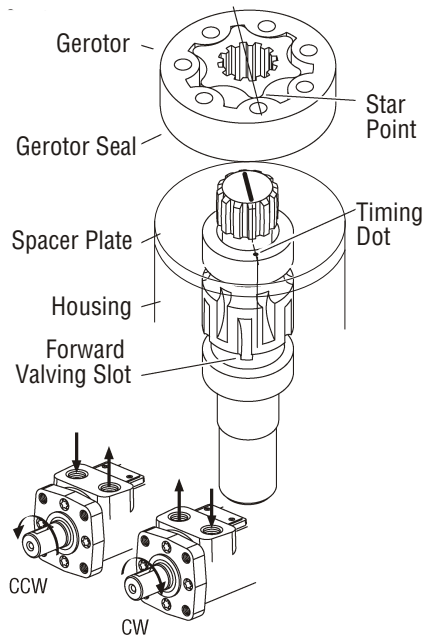

Figure 5-33, Standard Rotation
25. For standard rotation align any star point with the marked tooth on the drive. (Figure 5-33)